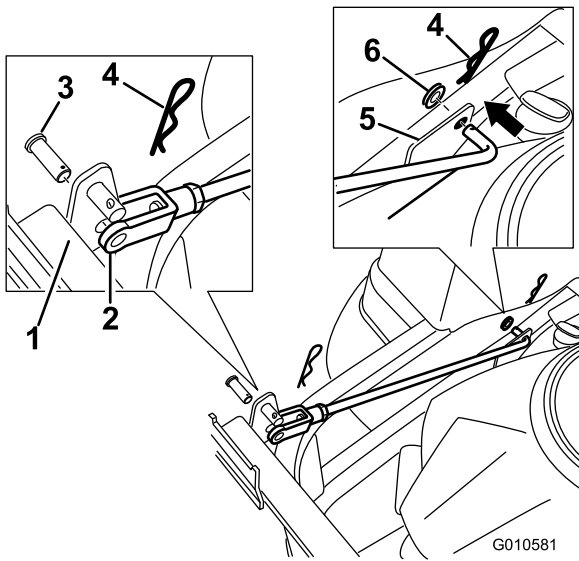

Figure 6
6. Install two support rods, one to each side of the bagger frame. Locate the existing bracket between the rear drive wheel and frame (Figure 6).
7. Insert the bent end of the rod into the bagger frame as shown in Figure 6. Secure the end of the rod with a washer and hair pin.
- D. Secure the clevis end to the bagger frame using a clevis pin and hair pin cotter.(Figure 6).